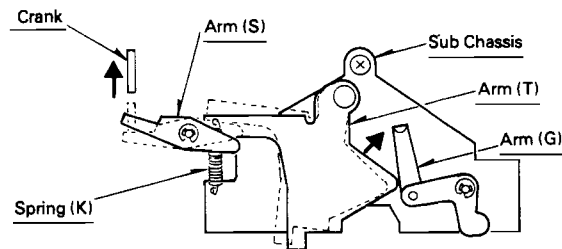

Fig. 19
With Crank pushed, Arm (T), through the pressure of Spring (K), moves in the direction shown by arrow in the figure and pushes Arm (G) so that the sensing mechanism is deactivated. With Crank returned to its normal position, Arm (T), through Arm (S), is separated from Arm (G) (Fig. 19).